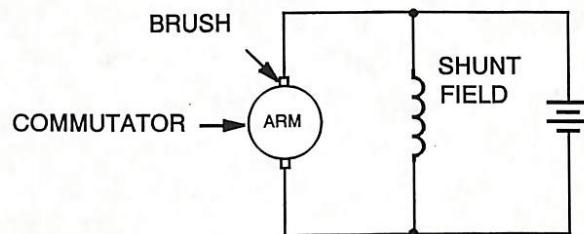

Figure 8. Shunt Motor.
**Shunt.** In the shunt-motor, the field winding is connected in parallel with the armature, as shown in Figure 8.